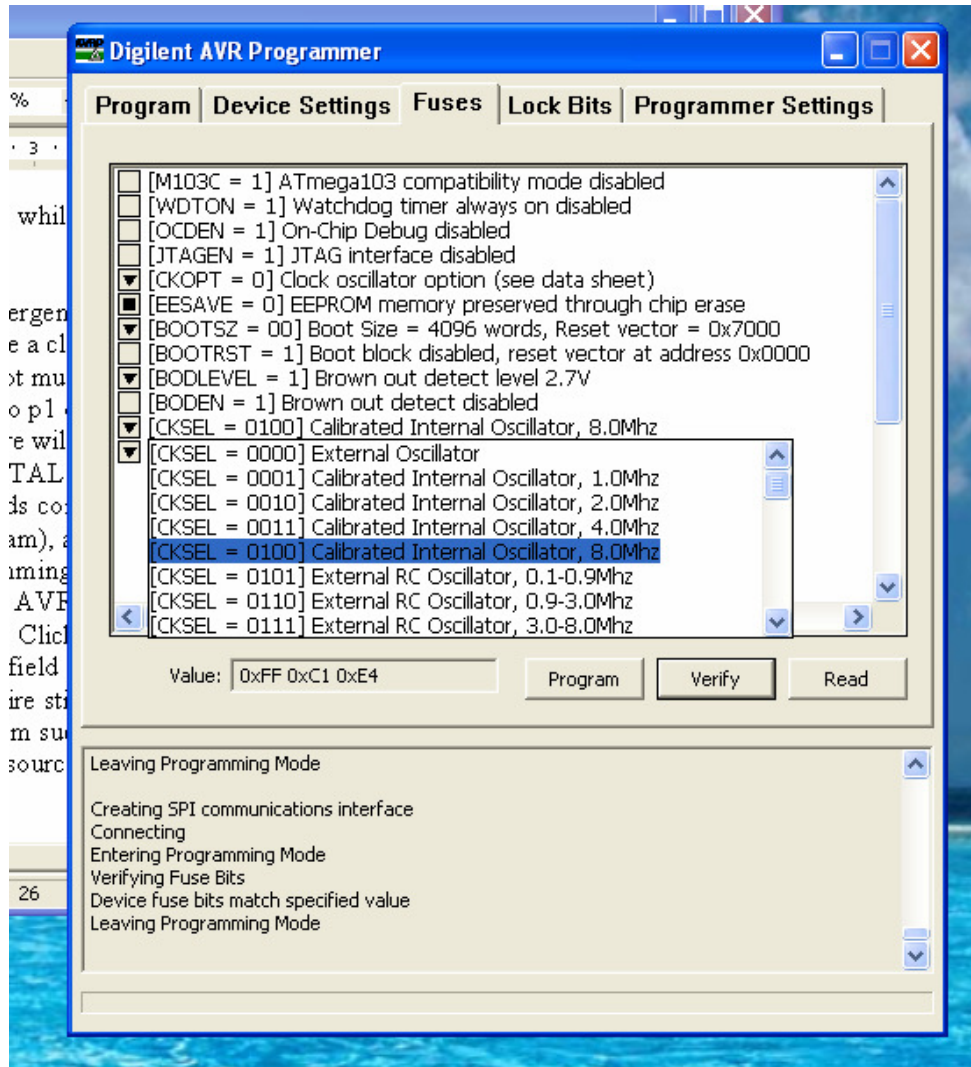

Figure 2
5. In Digilent AVR Programmer, select the Fuses tab and select [CKSEL = 0100] Calibrated Internal Oscillator, 8.0Mhz (see Figure 2).
8. In Digilent AVR Programmer, select the Fuses tab and select [CKSEL = 0100] Calibrated Internal Oscillator, 8.0Mhz (see Figure 2).